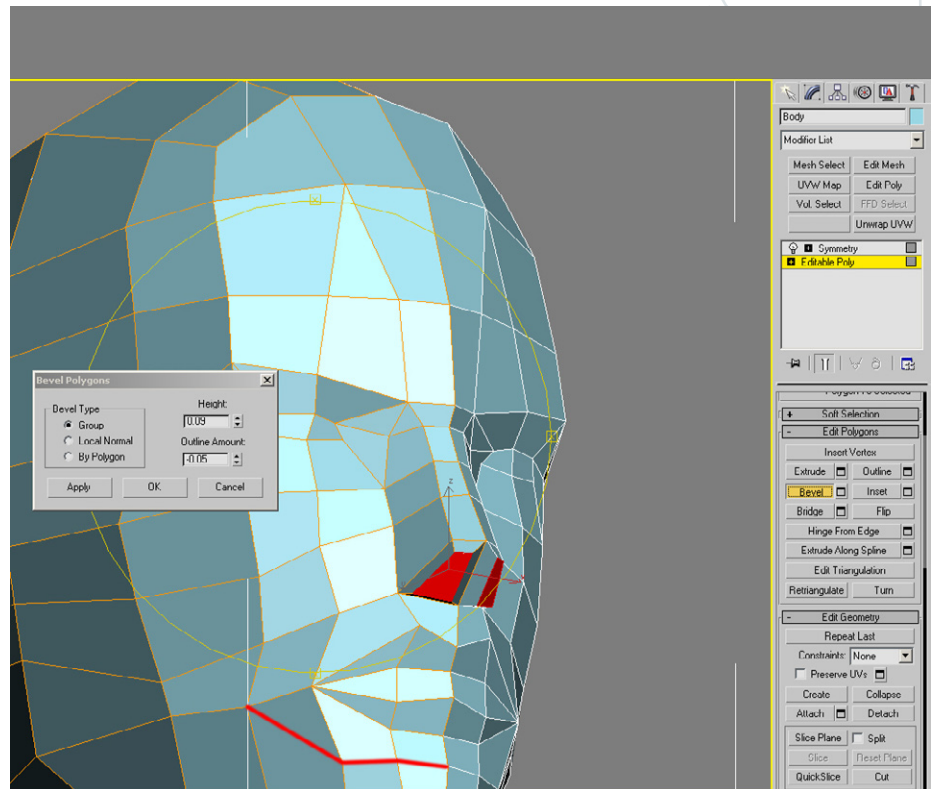

Fig 13
13. We have partially improved the eyes and so should refine the other features. First thing is to get rid of the harsh angle under the nose so select the poly and apply a Bevel (Fig13). As we are working on a mirrored half we now end up with unwanted poly's between the selected polygons. Delete these and then move the inner verts to line up with the central line using the snaps tool. One other thing to do is add a cut below the lips to create a better shape to the chin (highlighted in red).